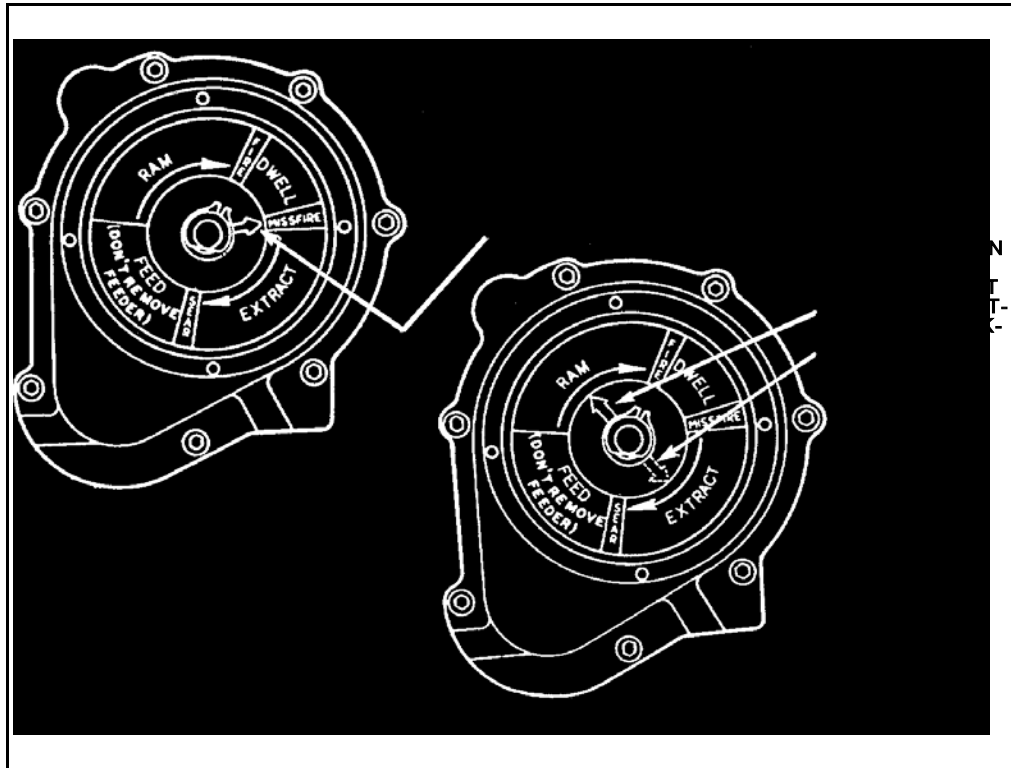

Figure 3. Bolt position indicator.
7. Check the bolt position indicator (Figure 3).